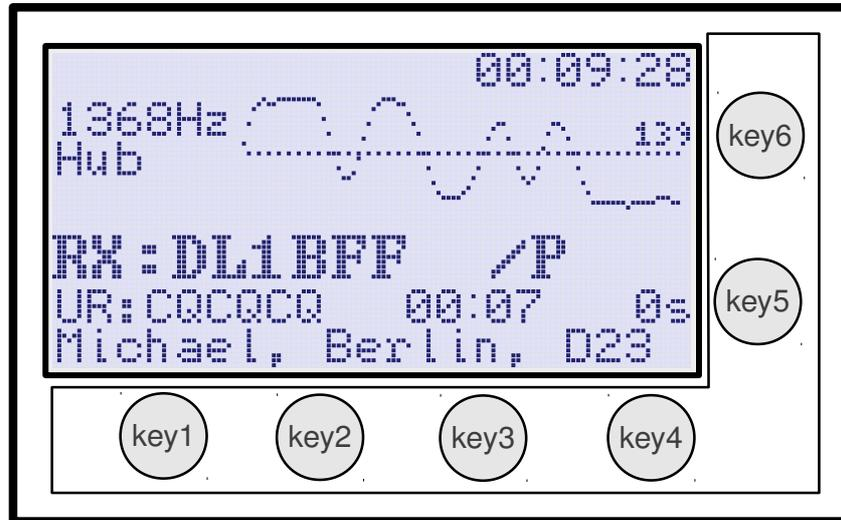

Figure 6: UP4DAR User-Interface
The user interface of the UP4DAR consists of a graphical display and six function keys, called soft keys. Four soft keys are located below the display and two soft keys beside of the right part of the display as you can see in figure 6.
This display page is the main operation page. You can see the page in figure 6. Soft key „key1“ works as PTT. When you push soft key „key2“ the NF output is muted and MUTE appears in the display. Mute begins to blink when a D-STAR signal is received. You can turn on the NF again with soft key „key2“. After 60 seconds MUTE is disabled automatically.